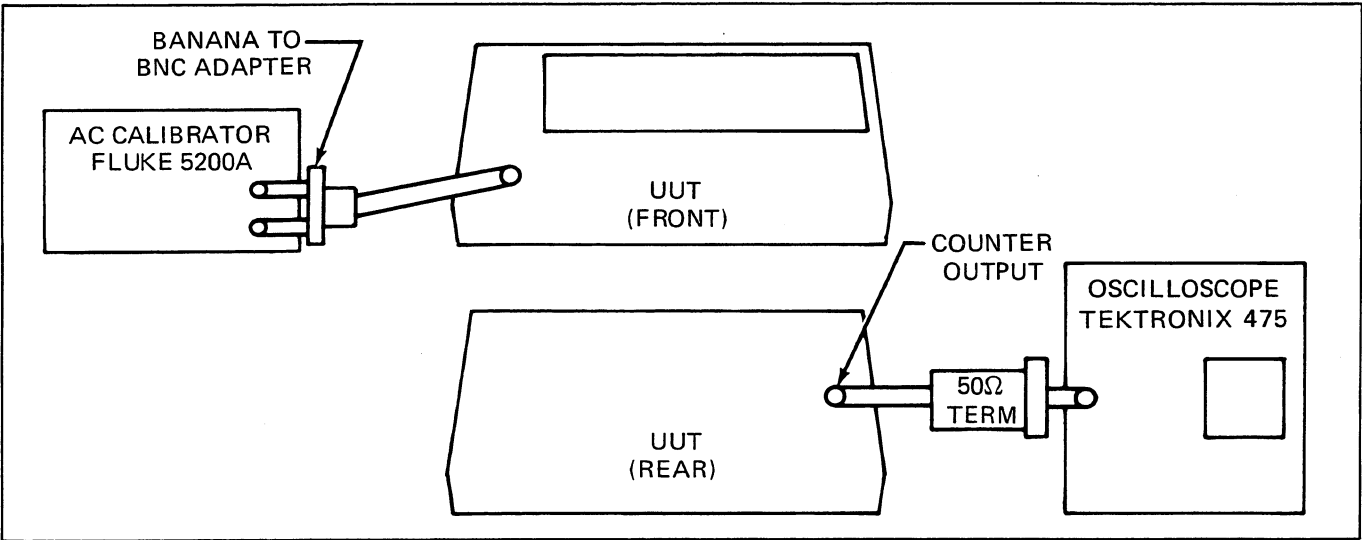
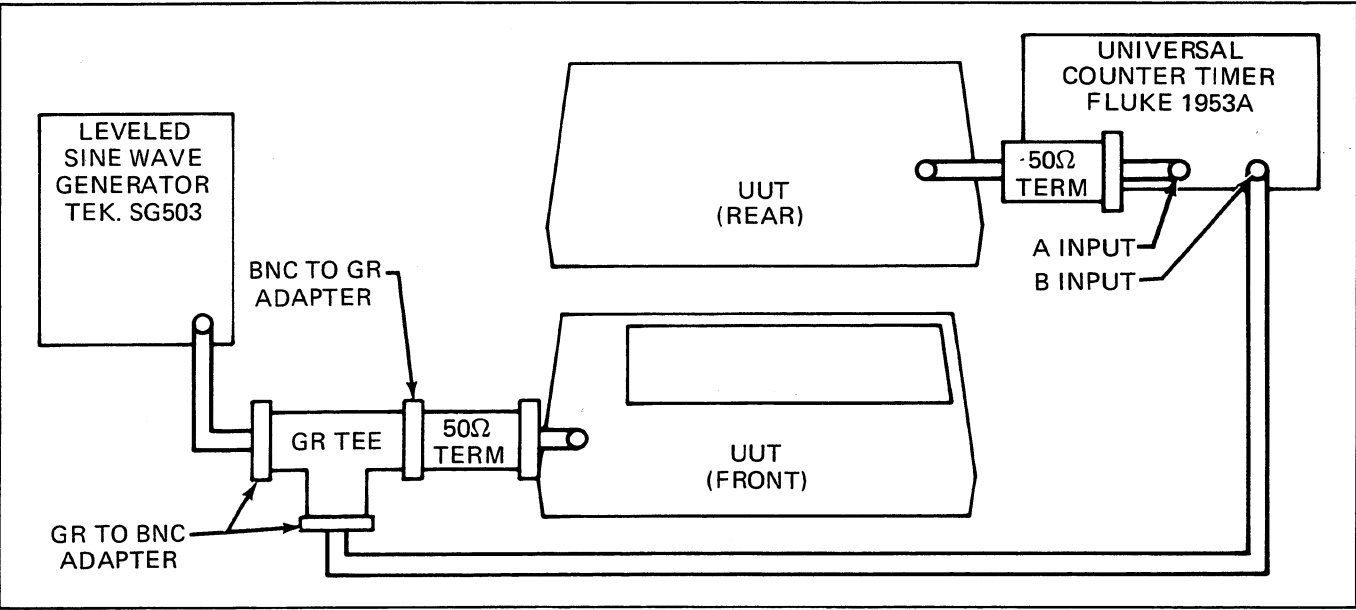

Figure 603-3. Counter Output Performance Set-Up
Figure 603-4. Counter Output Performance Test Set-Up
1. Connect the AC calibrator, UUT, oscilloscope and termination as shown in Figure 603-3.
4. Disassemble the setup as shown in Figure 603-3, and connect the SG503, UUT, and Universal Counter-Timer and terminations, as shown in Figure 603-4.